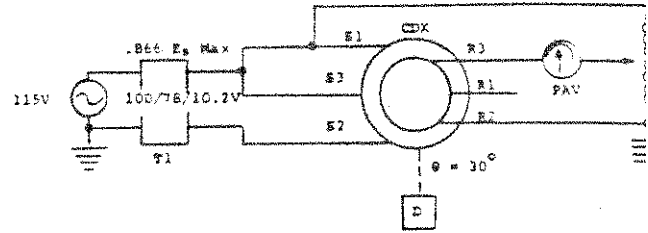

Figure 7-9. Transformation Ratio Test
- a. Set up equipment as shown in figure 7-9.